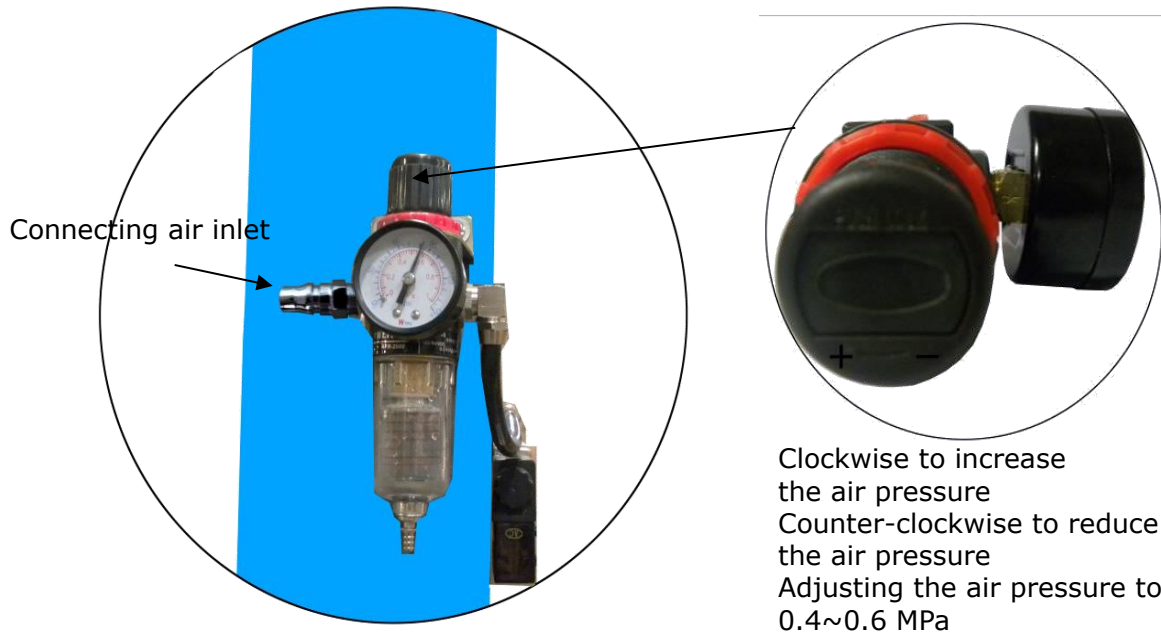

Fig. 30
6. Connecting air inlet (Air supply pressure 5 kg/cm²- 8 kg/cm²), adjusting the air pressure of Oil-water separator to 0.4 - 0.6 MPa (**See Fig. 30**).